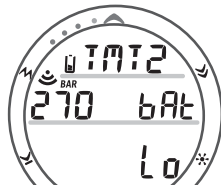

Fig. 38A - TMT2 BATT LOW
- > Graphic Good or Lo, or NotAvAil (Fig. 38A/38B)